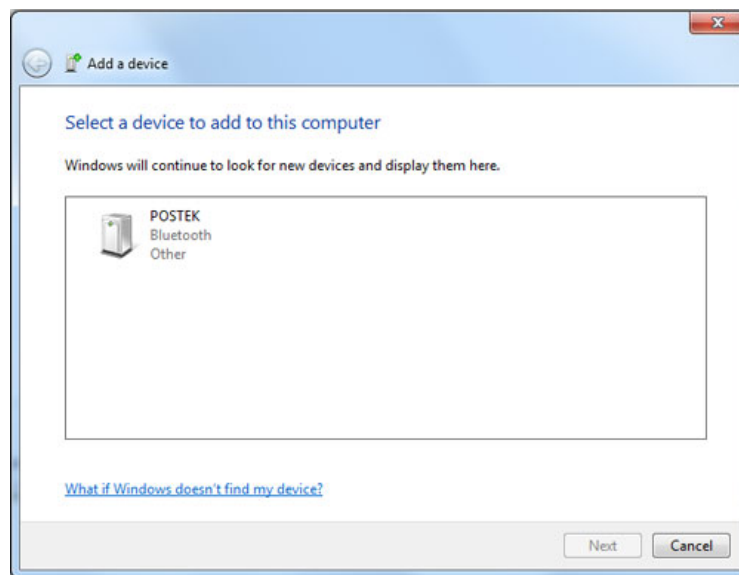

Figure 3-3
1. Ensure the computer or laptop connecting with the V6 has the ability search for Bluetooth devices. This will require Bluetooth connectivity to be built-in the computer or a Bluetooth adaptor to be utilized. From the computer's Devices and Printers, select "Add a device." All discoverable devices will display. The Postek V6 device will display as POSTEK, as shown in Figure 3-3.